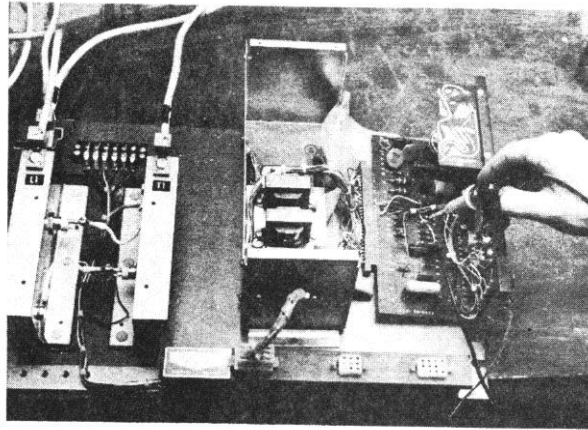

Fig. 3 – Recommended set-up for bench check of P.C. board
- (ii) If normal trigger operation is not indicated, then the trigger is defective. Remove it and either return it to the Service Department for repair or bench-check it and repair it as bench checking indicates is required. (Refer to Fig. 3 for recommended set-up for bench-check of the trigger PC board.)
ances per Circuit Diagram in this manual, and repair carefully or replace defective circuit elements as required. (Refer to Fig. 3 for recommended set-up for bench-check of the trigger-box PC board.)